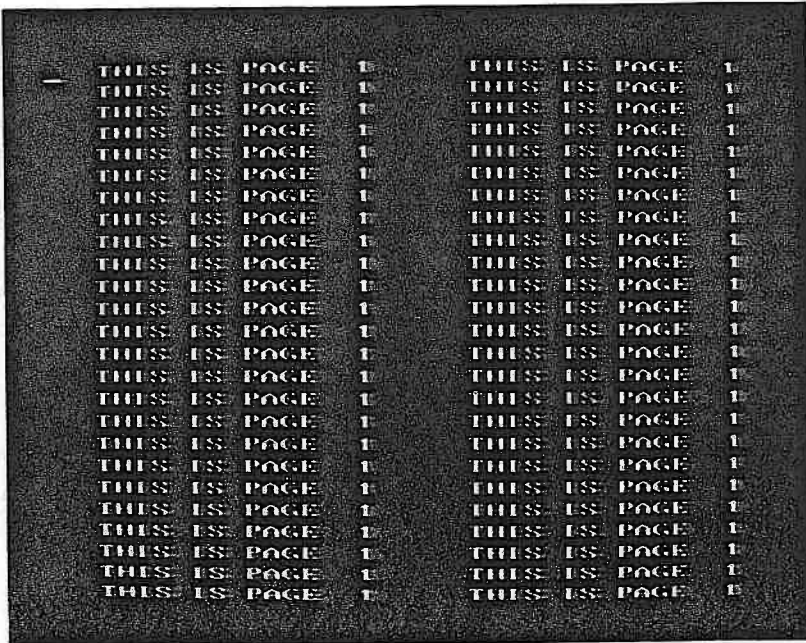

Figure 5-25. Paging Test Pattern—40 by 25 Mode
18. After the seventh page, the test will automatically go to the 40 by 25 mode paging test. In this mode, there are sixteen (0 through 15) pages instead of eight. To step through the pages, press the **ENTER** key. If the next page is not displayed after the **ENTER** key is pressed, press the **0** key followed by the **ENTER** key to indicate a failure. The patterns shown on the display should be similar to Figure 5-25.